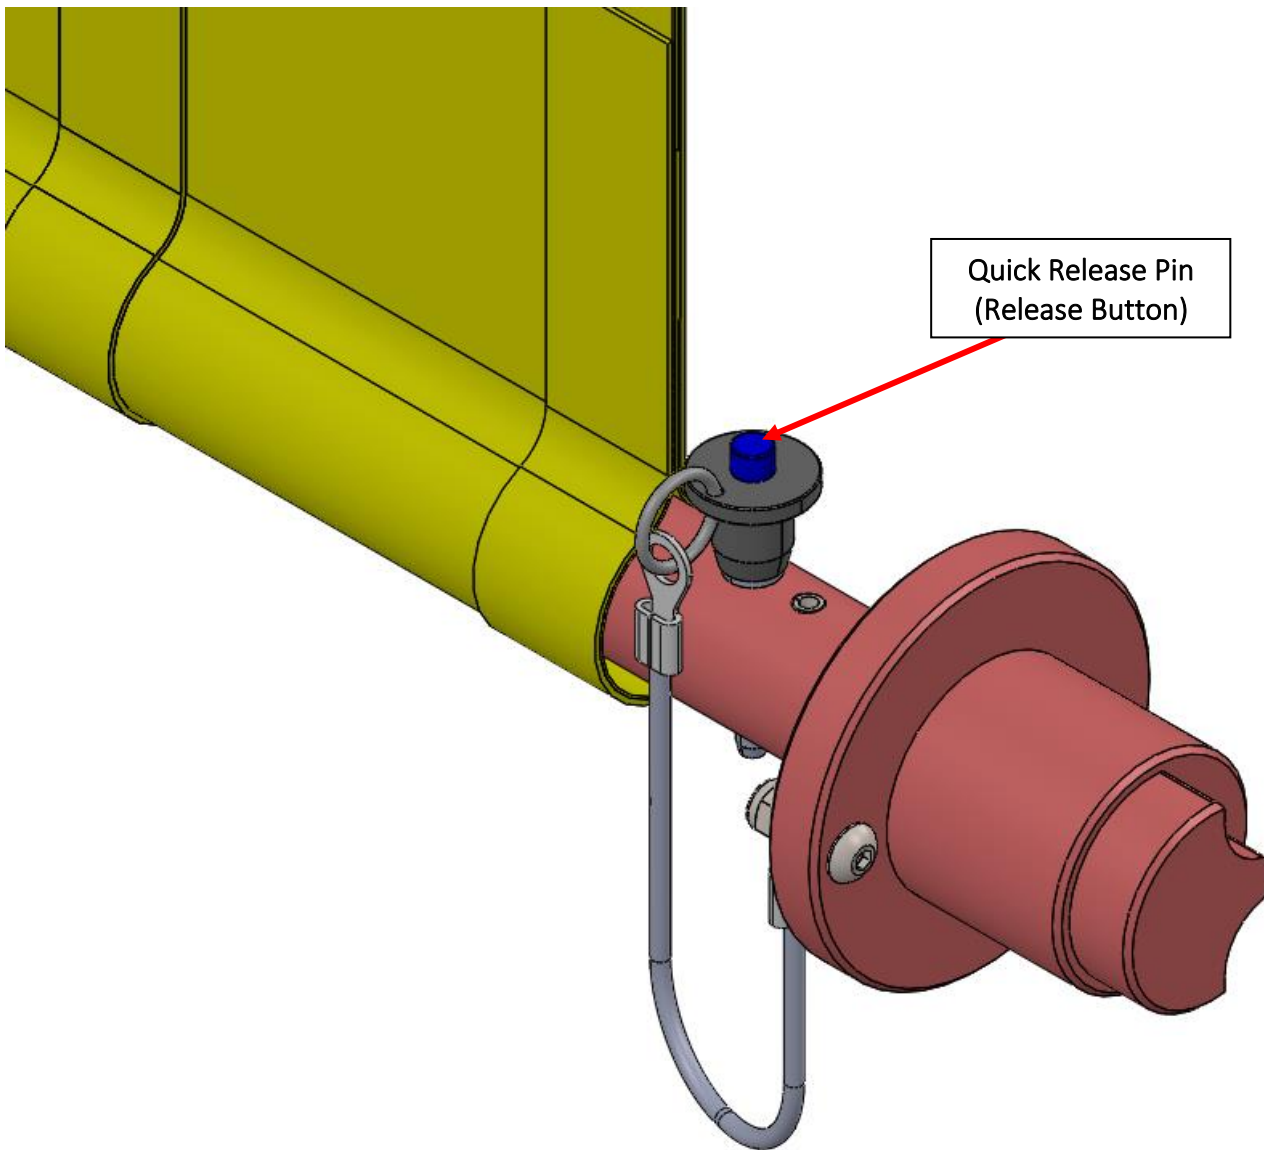

Figure 13 Bottom Quick Release Pin.
- 4.1.16 Press Quick Release Pin Release Button and remove from the bottom tube hole as shown in figure 13.
- 4.2.2 Pull out the bottom Quick Release pin see figure 13.